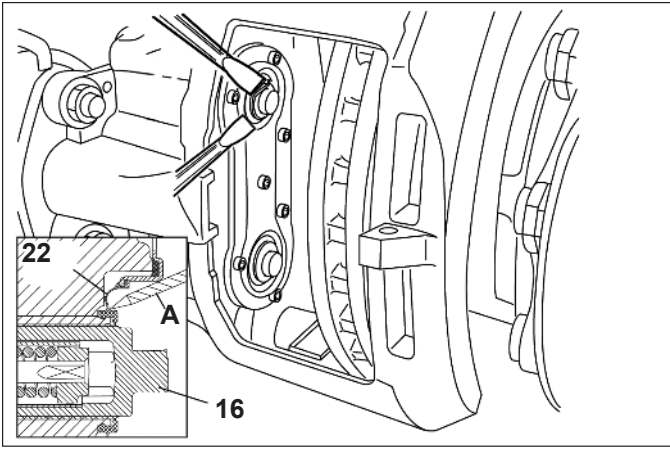

Figure 50 – Inner Seal Removal
5.5.8 See Figure 50. Carefully remove the inner seal using one or two flat-blade screwdrivers as shown. Caution: Do not insert the screwdrivers so far that they come into contact with the threaded tubes. Damage to the threaded tubes would require that the brake be replaced.